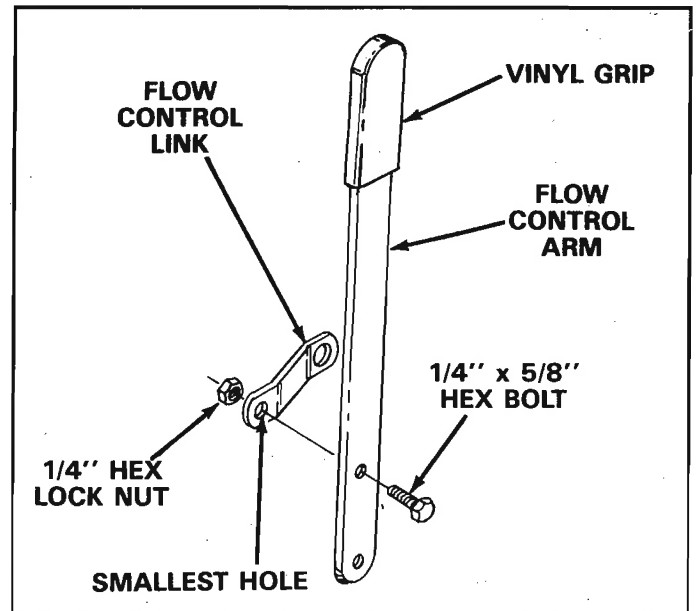

FIGURE 10
17. Place vinyl grip on the flow control arm. See figure 10.